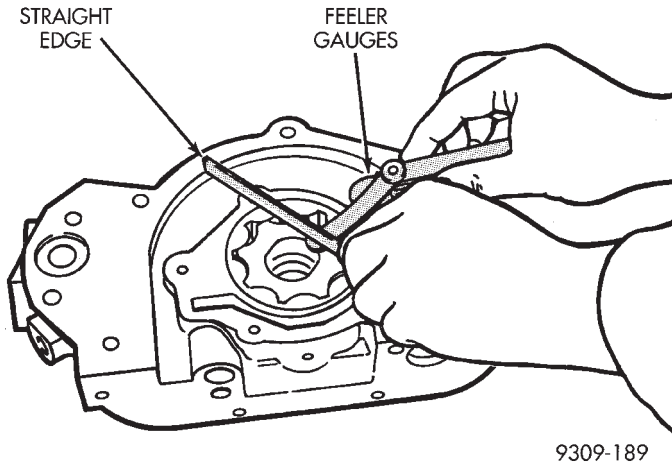

Fig. 113 Measuring Clearance Over Rotors
(7) Place a straightedge across the face of the body, between bolt holes. If a feeler gauge of 0.102 mm (0.004 inch.) or more can be inserted between rotors and the straightedge, replace pump assembly (Fig. 113) **ONLY** if rotors are in specs.